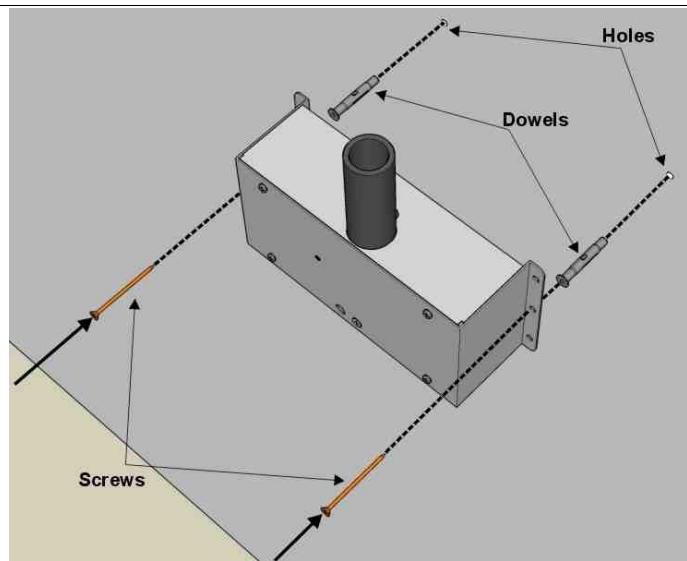
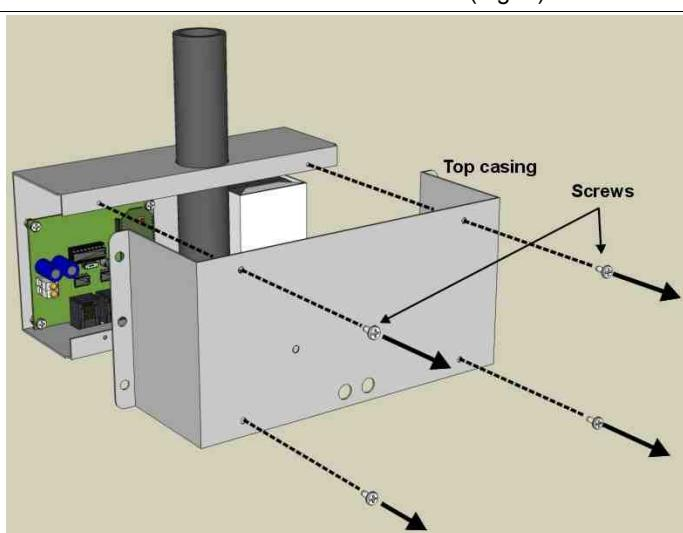

Fig. 6: Detail of installation on wall
Fig. 9: Lock nuts on the control board
1. Make two holes with a diameter of 6mm each in the wall (Fig. 6).
2. Detach the Radio Receiver from the wall (Fig. 6) and then unscrew the 4 front screws (Fig. 9) in order to remove the top casing.